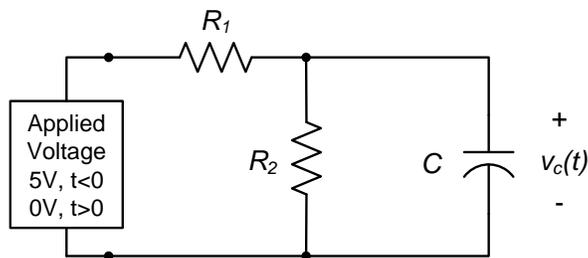

Figure 1. Basic RC circuit.
The basic RC circuit being used in this assignment is shown in Fig. 1. We will be interested primarily in the measured vs. expected behavior of the capacitor voltage, $v_c(t)$. Initially, the voltage applied to the RC circuit is 5V. We obtain the natural response of the RC circuit by changing the applied voltage to 0V instantaneously at time $t = 0$. The natural response of the capacitor voltage is $v_c(t)$, $t > 0$.
The way in which we reduce the applied voltage in Fig. 1 from 5V to 0V can have an effect on the circuit’s natural response. In this lab assignment, we will use two different approaches to the switching process involved in changing the applied voltage:
- a. Construct the circuit shown in Fig. 1, using $R_1=1k\Omega$, $R_2=2.2k\Omega$, and $C = 22\mu F$. (As always, measure the actual resistance value; measure the capacitance value if you have the appropriated instrument – some DMMs have a capacitance meter – otherwise, assume that the nominal capacitance value is correct.)
- b. Still using the circuit shown in Fig. 1, (with $R_1=1k\Omega$, $R_2=2.2k\Omega$, and $C = 22\mu\text{F}$ as in part a), use a square wave with an amplitude of 2.5V and an offset of 2.5V to create a square wave that oscillates between 0V and 5V. We will be using this square wave to implement a transition between 5V and 0V; use a very low frequency, 1Hz or so¹.